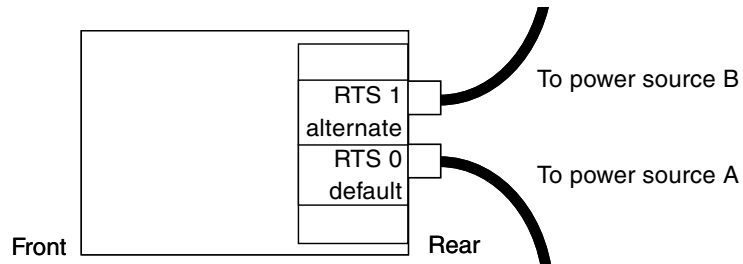

FIGURE 3-2 Sun Fire Cabinet for E4900 Configuration: One RTU Assembly and Two Independent AC Power Sources
- In configurations with one RTU assembly and two independent AC power sources there will be two cables to connect, both in the rear of the system (FIGURE 3-2).